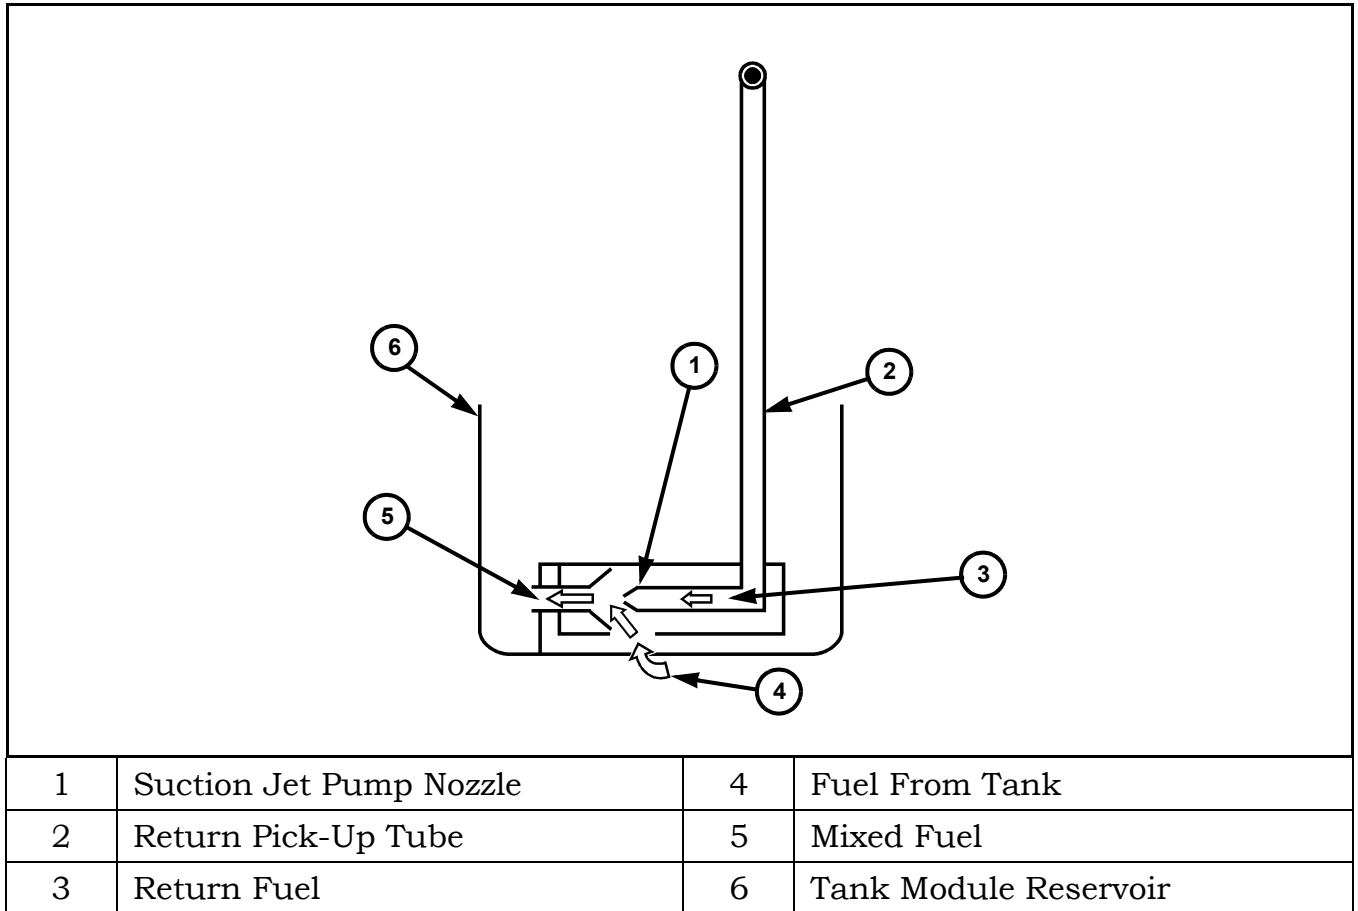

Figure 26 Suction Jet Pump
The suction jet pump (Figure 26) helps fill the fuel tank module reservoir with fuel up to a certain level. When cornering with a low fuel level in the fuel tank the reservoir prevents the system from drawing in air. The nozzle (1) in the suction jet pump accelerates the returning fuel (3). The fuel jet produces a differential pressure, which draws fuel from the tank into the reservoir (6).